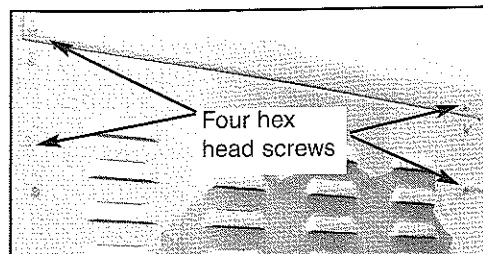

Fig. 1
1. Start by removing the four 1/4" hex head screws on each side of the grill. (See Fig. 1)